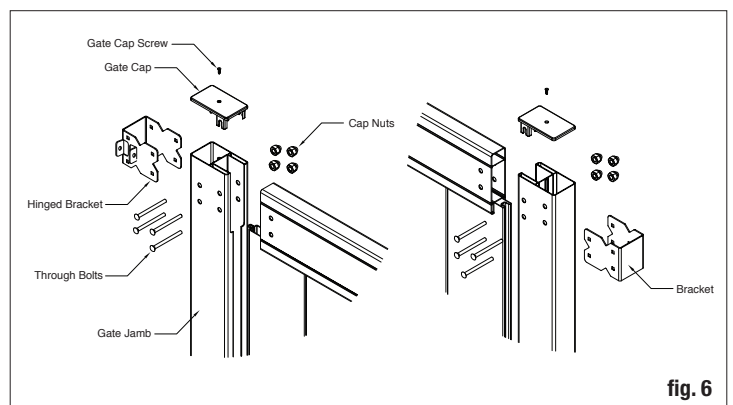

fig. 6
Place gate jambs on both sides of the rails and place the hinges on the gate jamb so they are aligned with the rails. Using the bracket as a guide, drill the four (4) necessary 1/4" holes for the bracket bolts. Repeat these steps for the hinged brackets as well (fig. 6). Ensure the rails are fully inserted in the jamb before drilling. The bolts need to go through the jamb and rail to function properly.